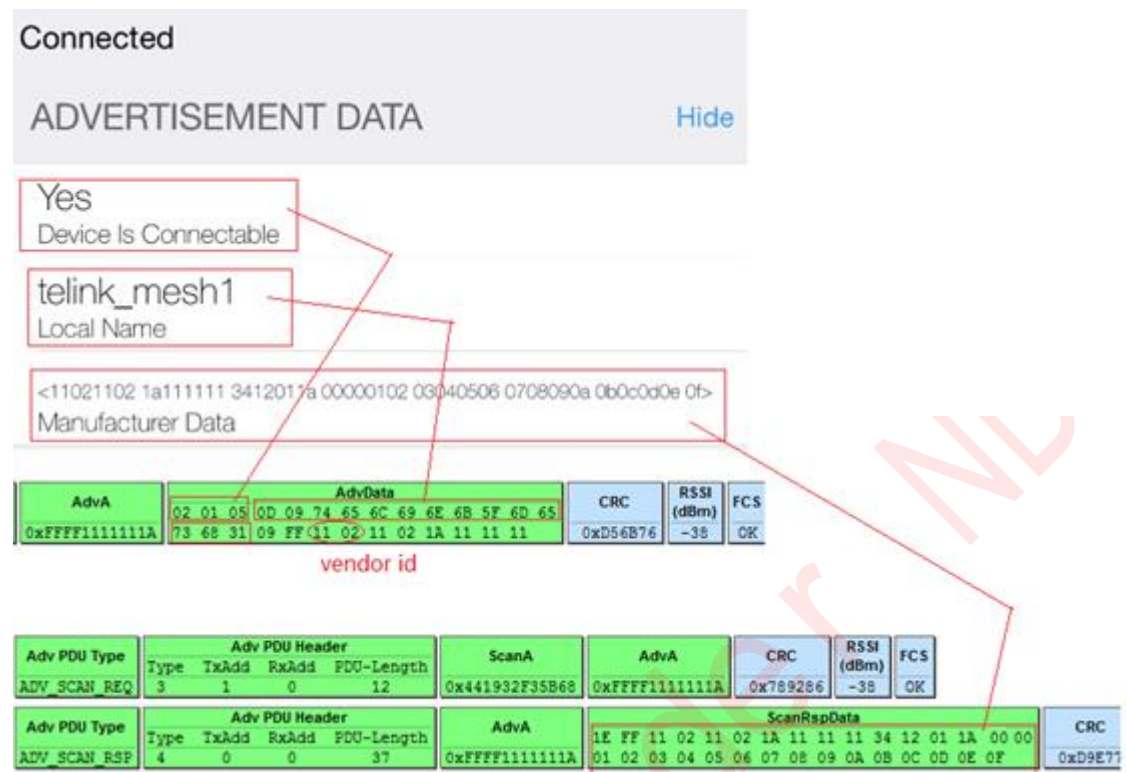

Figure 16 Advertising packet
*Note: During APP development, it's needed to filter out the advertising packets containing non-predefined vendor ID in the BLE peripheral scan list. The vendor ID value can be obtained from the "adv_pri_data" field of the advertising packet. As shown in the Figure 16, the vendor ID is 0x0211.